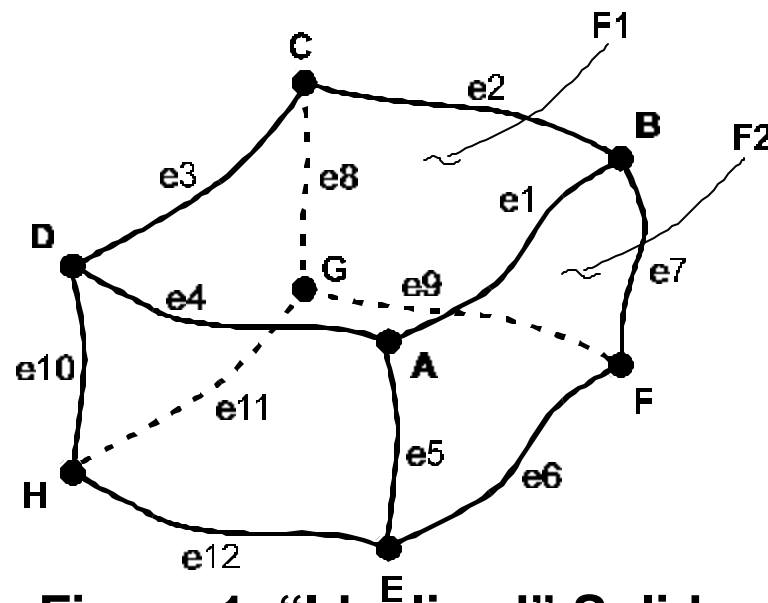

Figure 1. “Idealized” Solid
- Figure 1 shows an “idealized” solid model. Vertex A “is” the intersection of edge curves e1, e4, and e5 and edge curve e1 “is” the intersection of face surfaces F1 and F2.